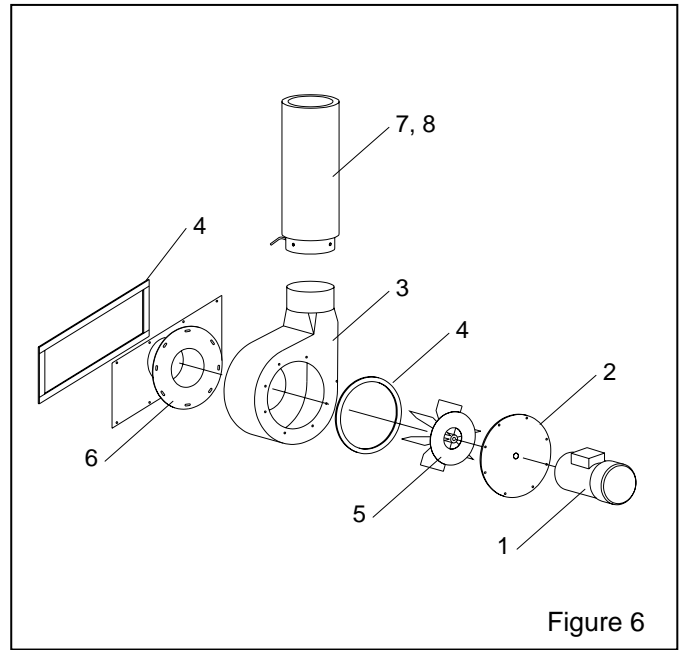

Figure 6
**8.3 Exhauster assembly, Figure 6**